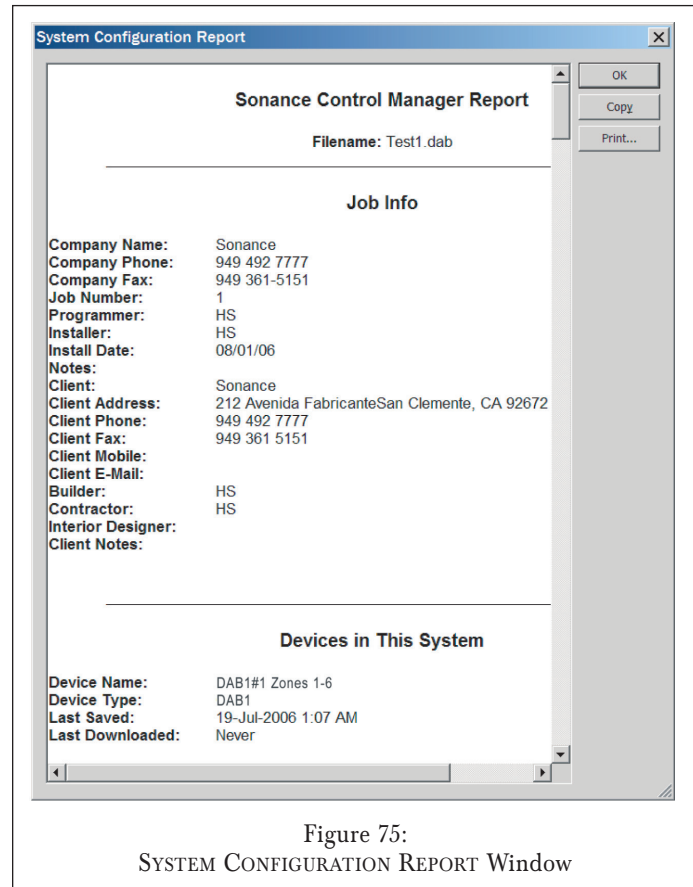

Figure 75:
2. Once the Sonance Control Manager has been updated, open the FILE menu and select SYSTEM CONFIGURATION REPORT. The SYSTEM CONFIGURATION REPORT window (*Figure 75*) will open.